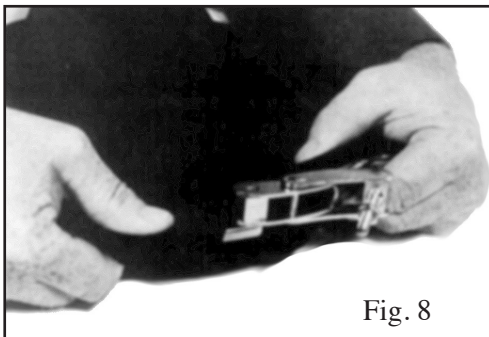

Fig. 8
While pulling apart, press down on the block end of the neck clamp and up on the lever end. (Fig.8) The base of the lever mount stops the lower track at the end and a jog in the pull apart motion is necessary.
The Neck Dam Assembly is retained on the Helmet at three (3) locations; (Fig 8) the Rear Alignment Sleeve and two Helmet "front ears". The Rear Hinge Tab straddles the Rear Alignment Sleeve, mounted on the Rear Weight, as the Neck Clamp & Dam assembly is pushed over and past the Helmet ears. The Neck Clamp must be open enough to clear the Helmet ears. The Neck Clamp must travel beyond the thickness of the Helmet ears before clamping around the Helmet and sealing against the O-Ring Seal. The Neck Clamp should be adjusted so that the Neck Dam seals against the O-Ring Seal with **NO VISIBLE GAP** between the Neck Dam and the Helmet after clamping. If time permits, clamp the Neck Dam Ass'y. to the Helmet and let set for a 24 hour period; afterwards, remove the assembly, put it back on and check the clamping adjustment. If the Helmet is to be used immediately, the clamping and sealing action **MUST** be checked for readjustment after 24 hours. This adjustment should be checked prior to each dive.